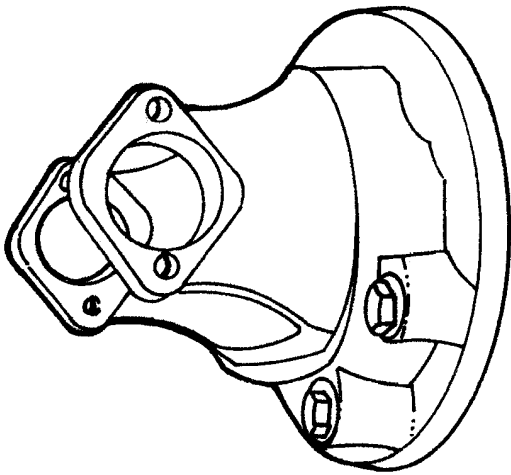

Figure 26 Rotate Transmission or Axle End Yoke so Cross Holes are Horizontal
2. Rotate the transmission or axle end yoke so that the cross holes are in a horizontal position (Figure 26).